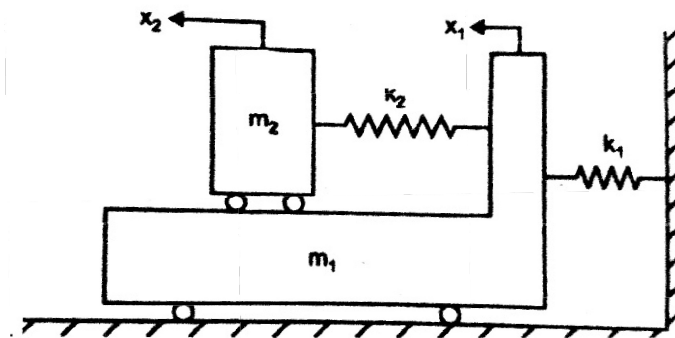

Figure No.4
- Q8) a)** Determine the natural frequency and amplitude ratios for the system shown in Figure No. 4. Consider $K_1 = 1000 \text{ N/m}$, $K_2 = 500 \text{ N/m}$, $m_1 = 50 \text{ kg}$ and $m_2 = 10 \text{ kg}$. [12]